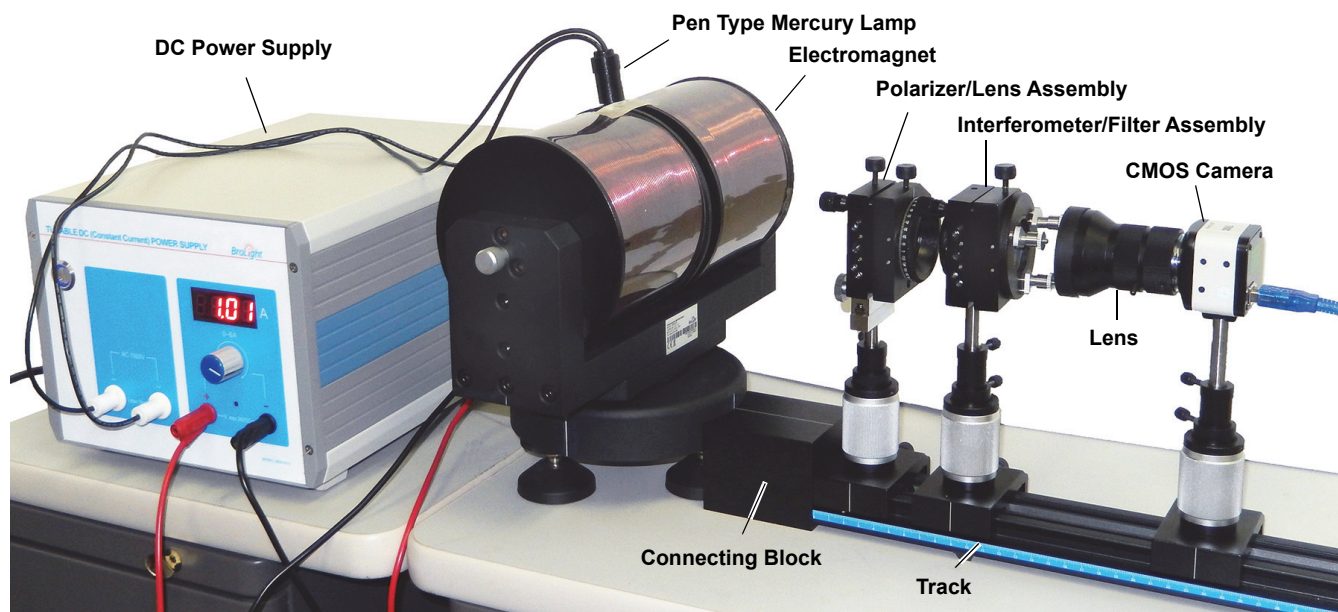

Figure 6: Setup
1. Place the electromagnet in a convenient location on a level surface. NOTE: The electromagnet weighs 72.5 pounds! If possible, set aside a permanent place for the electromagnet in the laboratory so it will not need to be moved. Arrange the electromagnet so that the locking thumbscrew on the base points away from the direction where the track will be placed (see Figure 6).